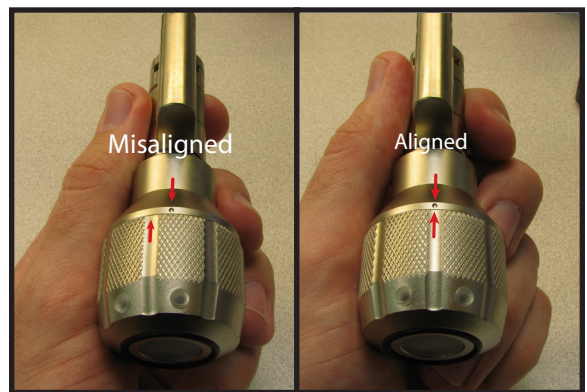

Figure 10: Aligning the Groove
- 5.1) With the cap fully set and looking at the top of the lock, the groove between the two LEDs must be aligned with the punch mark. Adjust as needed. See Figure 10.